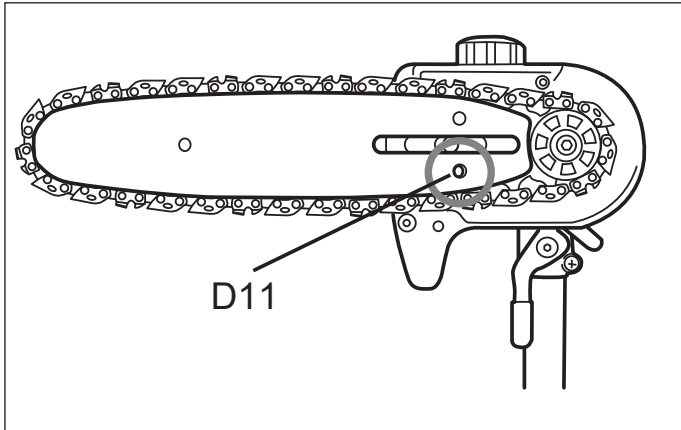

Fig. 7e
- g). Make sure the tension pin (D11) is inserted into the lower hole on the guide bar. (See Fig. 7e)